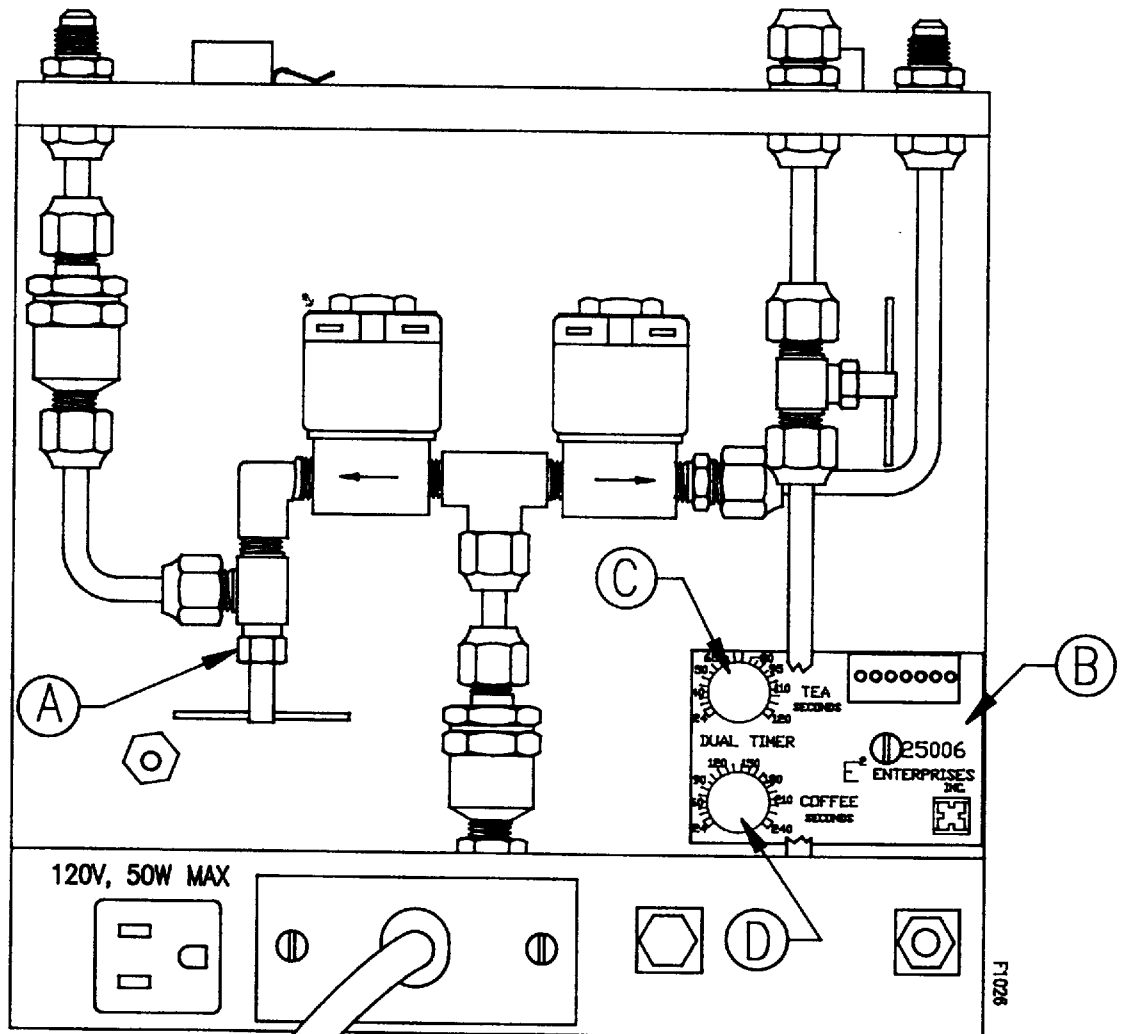

FIG. 1
8. Close needle valve (Fig 1-A, Page 3) by turning Clockwise.
14. The tea dispenser should fill with one brew cycle. If not, in the rear of the unit is a black dual purpose timer (Fig 1-B, Page 3). The timer has two adjustment knobs, one marked TEA (Fig 1-b, Page 3), the other COFFEE (Fig. 1-D, Page 3). With the knob marked TEA, adjust the timer until the desired level in the tea dispenser is achieved (3 Gallons). Increasing the time will give more volume; decreasing the time will give less volume.
15. Open needle valve (Fig 1-A, Page 3) by turning counterclockwise 5-6 half revolutions. This will give approximately 75 ounces of hot water concentrate water through the sprayhead with the balance of the 3 gallons passing as cold water through the dilution tube. Turning the valve counterclockwise increases tea strength, clockwise will decrease strength.